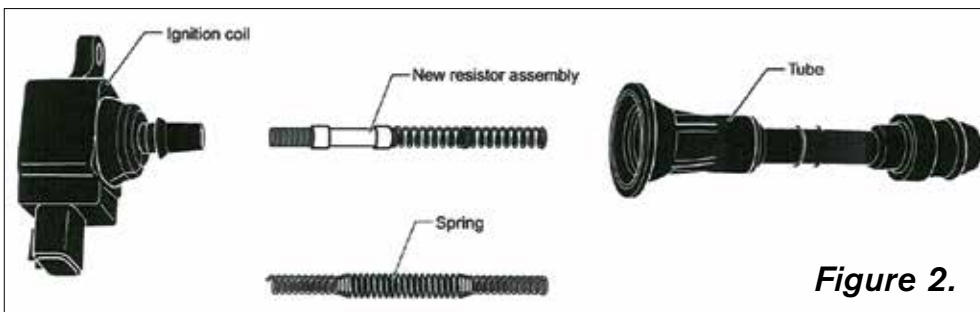

Figure 2.
- B. Remove the spring from the ignition coil and discard. Insert the new resistor assembly into the ignition coil tube exactly as shown (Fig. 2).